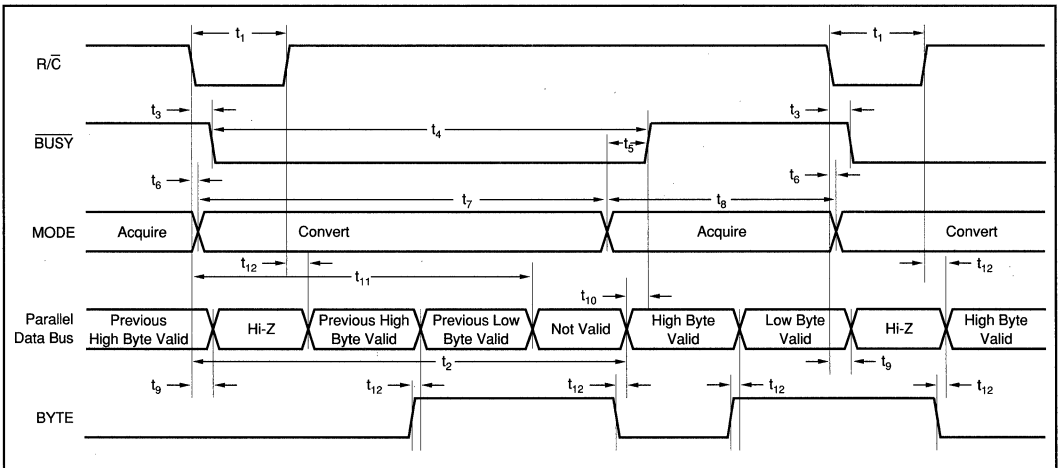

FIGURE 2. Conversion Timing with Parallel Output ($\overline{\text{CS}}$ and DATACLK tied LOW, $\overline{\text{EXT/INT}}$ tied HIGH).
The ADS7806 will begin tracking the input signal at the end of the conversion. Allowing 25 μ s between convert commands assures accurate acquisition of a new signal. Refer to Tables III and IV for a summary of \overline{CS} , R/C, and BUSY states and Figures 2 through 6 for timing diagrams.
NOTE: (1) See Figures 2 and 3 for constraints on data valid from conversion "n-1".
After conversion 'n' is completed and the output registers have been updated, $\overline{\text{BUSY}}$ (pin 24) will go HIGH. Valid data from conversion 'n' will be available on D7-D0 (pin 9-13 and 15-17). $\overline{\text{BUSY}}$ going high can be used to latch the data. Refer to Table VI and Figures 2 and 3 for timing constraints.
After conversion 'n' has been initiated, valid data from conversion 'n-1' can be read and will be valid up to 12 μs after the start of conversion 'n'. Do not attempt to read data from 12 μs after the start of conversion 'n' until $\overline{\text{BUSY}}$ (pin 24) goes HIGH; this may result in reading invalid data. Refer to Table VI and Figures 2 and 3 for timing constraints.